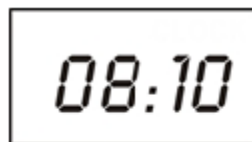

Fig.1
- (1) Press the HR and MIN button to set the present time (real clock), that is 8:10 (See Fig. 1).